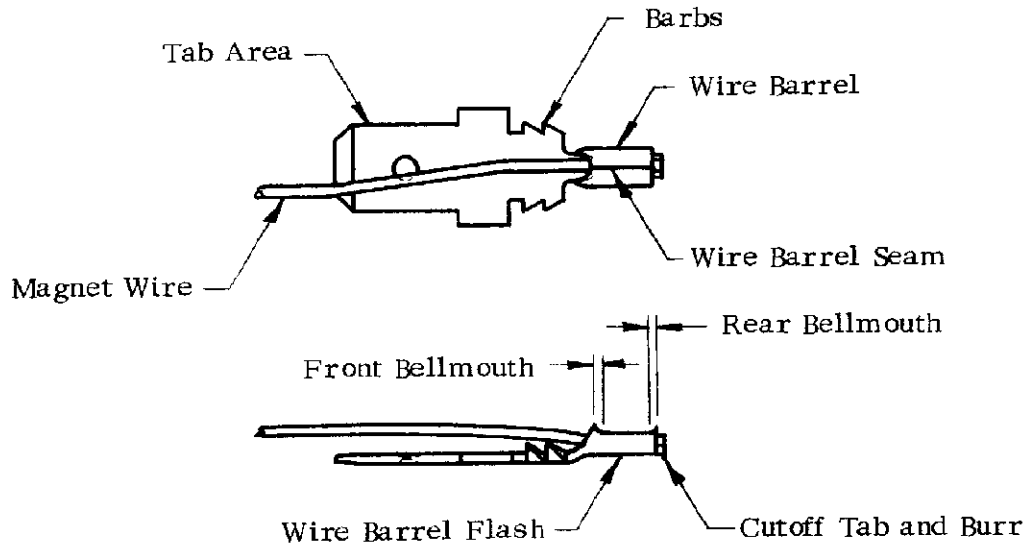

Figure 1
- (1) Magnet wire shall lie across the tab area as shown in Figure 1 and extend thru the wire barrel before crimping.
- (2) Wires shall be cut off clean at the rear end of the wire barrel after crimping.